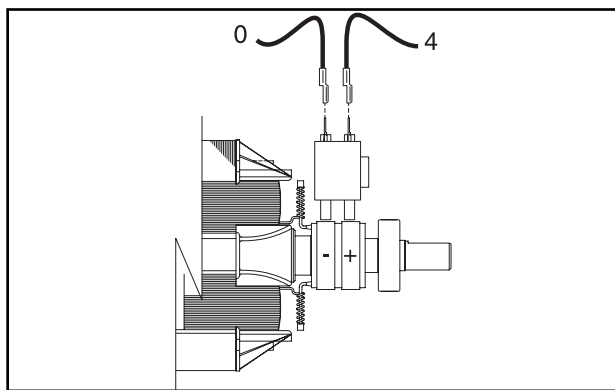

Figure 7. Checking Brushes and Slip Rings
4. See figure 7. Carefully inspect brush wires; make sure they are properly and securely connected.